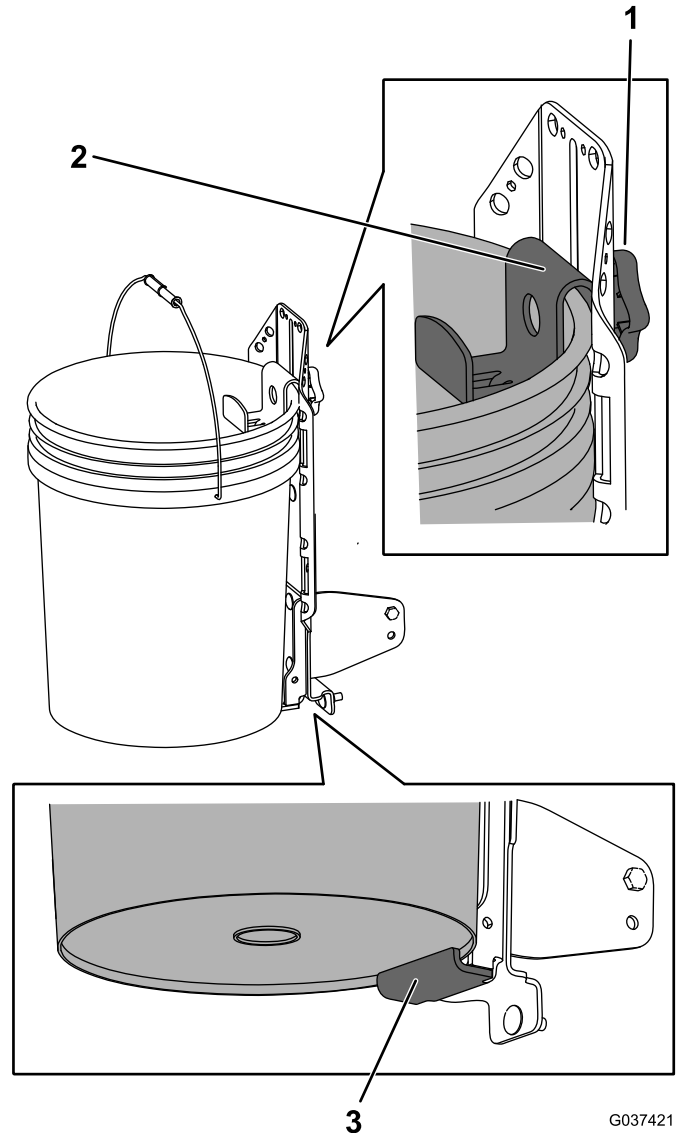

Figure 6
1. Loosen the knob and raise the top bracket. Tighten the knob to hold it in place (Figure 6).
2. If you removed the hinge bracket, place the bottom lip of the bucket over the bottom ledge of the welded support bracket (Figure 6).
3. Loosen the knob and lower the top bracket as far as possible over the rim of the bucket. Tighten the knob (Figure 6).